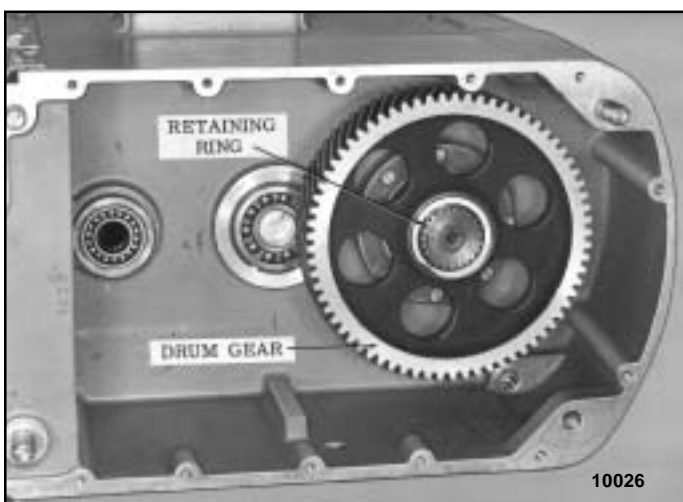

Figure 5-6. All Gearing Removed except Drum Gear
- f. To remove drum gear, remove spirolox retaining ring from end of drum shaft and pull drum gear from splined shaft (Figure 5-6). This should be done after complete load brake shaft assembly has been removed.